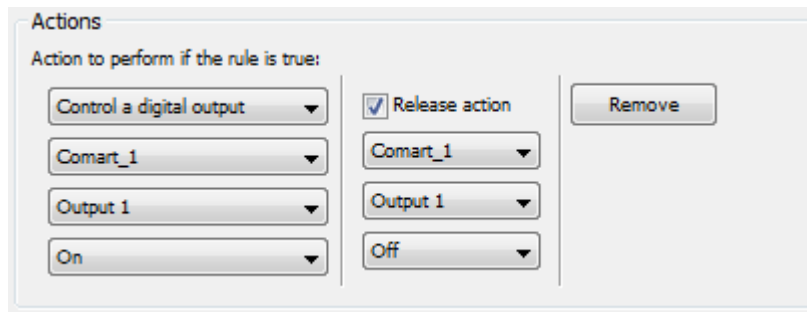

Figure 5.9: Choose actions.
- Select an action “Control a digital output” (Figure 5.9). Select a device and desired output. Choose to which state the output is set when the action is triggered.